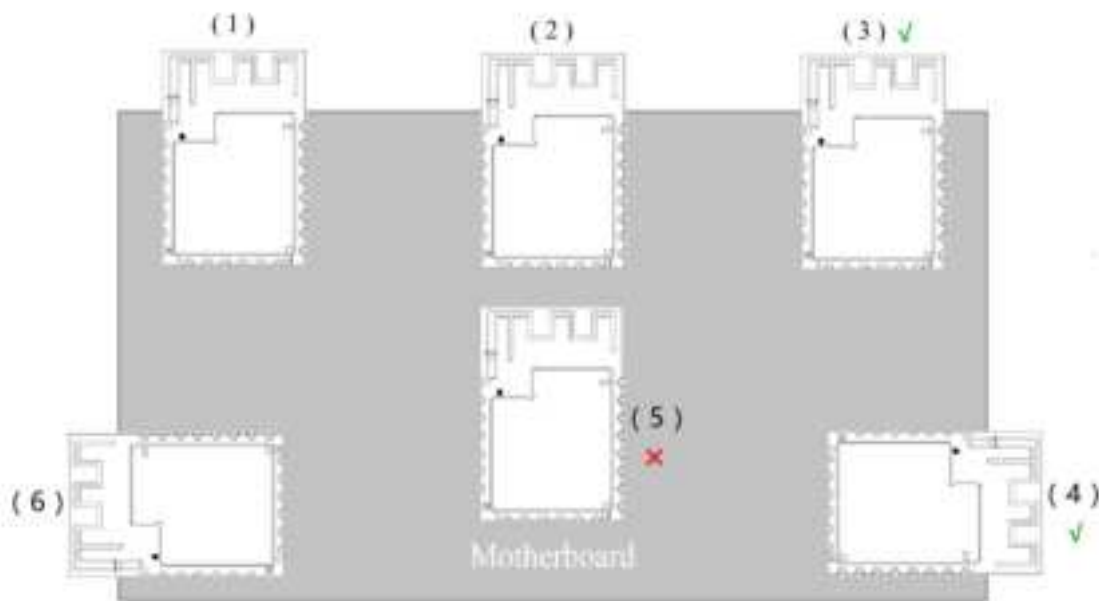

Figure 5.1 Schematic of the position of the FB82 module with on-board antenna on the base plate
and crystals, etc.) and apertures are kept away from the antenna by at least 10 mm; if there is a metal casing and a high device height of the components near the antenna area of the module, it should be kept at a distance of more than 10 mm away from the antenna area; and when the whole machine design is involved, the device casing should be kept away from the antenna area by at least 10 mm. When the whole machine is designed, the device shell (especially the material around the antenna) should be made of non-metallic material, and at least 3 mm distance should be kept between the antenna and the shell, and please pay attention to consider the influence of the shell on the antenna. In Fig. 5.1, positions (3) and (4) of the module on the base plate are strongly recommended, positions (1), (2) and (6) are not recommended, and position (5) is prohibited; the base plate will greatly attenuate the antenna's radiating capability if the module antenna area is not cleared.